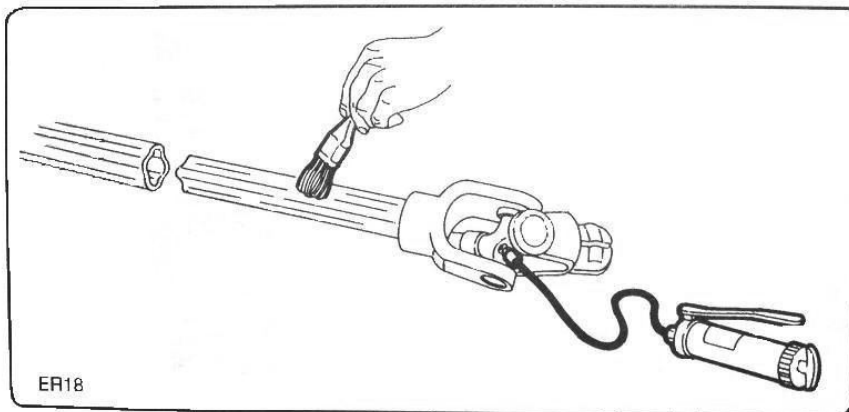

fig. 7.5.1
7.5.1 - Cleaning and greasing the driveline (fig. 7.5.1)